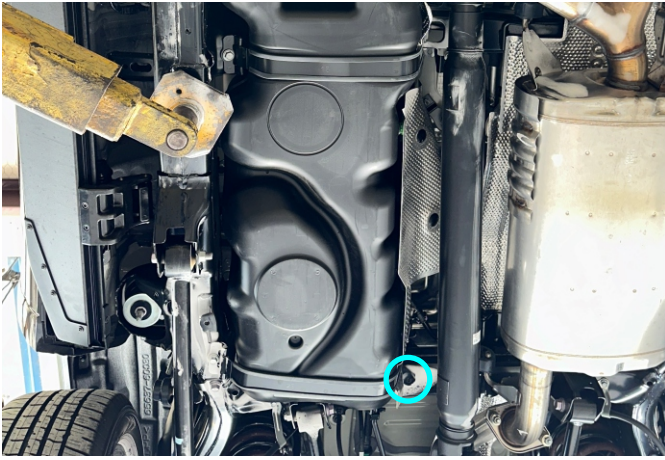

Fig. 4
2. Secure bracket 2 (item 3) using bolt M8x25 and washer M8 (items A, B) as shown in fig. 4, 5.